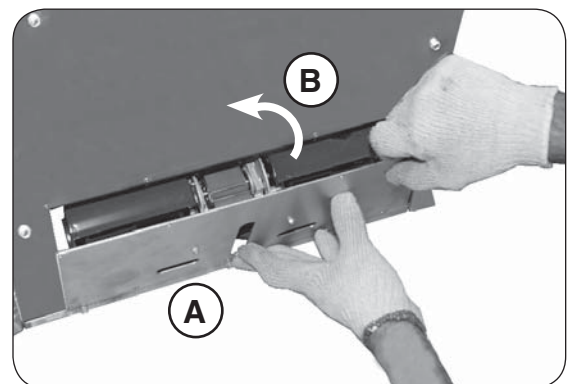

Fig. 57-4 Re-install detail
6. Re-install the fan assembly by first dropping in the bottom of the panel, then lifting up into place (see Fig. 57-4). Use the screws to re-fasten the panel.